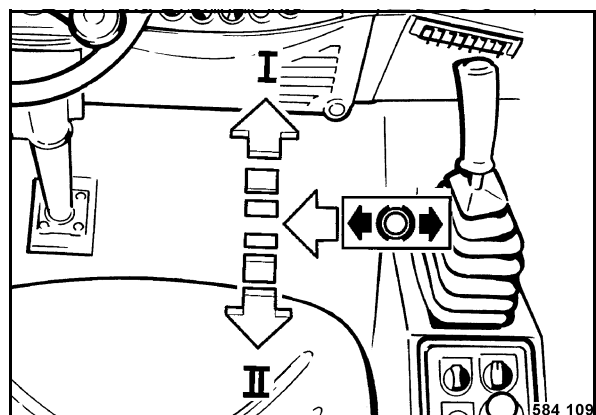

Fig. 94
- Shift the travel lever (Fig. 94) fully to position "I".